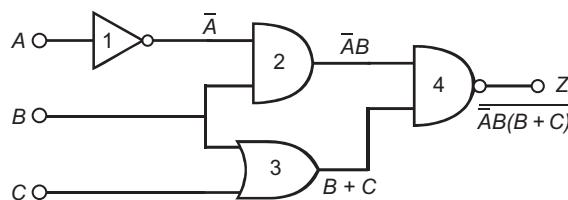

FIGURE 19.2 This logic circuit is analysed by several different techniques in this topic.
In the circuit shown in Figure 19.2, find the outputs of Gate 4 for all possible combinations of inputs if:
Find the output of the circuit shown in Figure 19.2 by labelling the output of each gate with the logical result of its action. Work across the diagram from the inputs to the output. This gives the logical expression for the output shown on the extreme right of the figure. Next, simplify this, using De Morgan's Theorem and other logical identities:
Use a Karnaugh map to simplify the logic circuit in Figure 19.2.
Taking the output column of the truth table shown directly below Figure 19.2, we enter these results into a three-variable Karnaugh map. This has two variables (AB) on one edge and variable C on the other edge (see over). This gives 8 cells in the map, each corresponding to one of the rows in the truth table. Note that the columns and rows are headed in such a way that only one bit in the expression changes as we go from one column to the next.